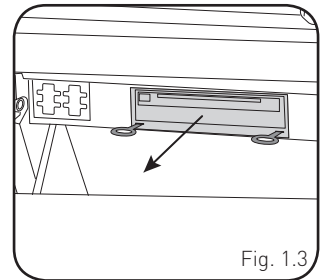

Fig. 1.3
4. **[8 inch radio]** Open glovebox and locate the factory CD player. Using 2 of the supplied removal tools, remove the CD player in the same fashion the radio was removed. (Fig. 1.3) Disconnect main wire harness and all antenna connections.